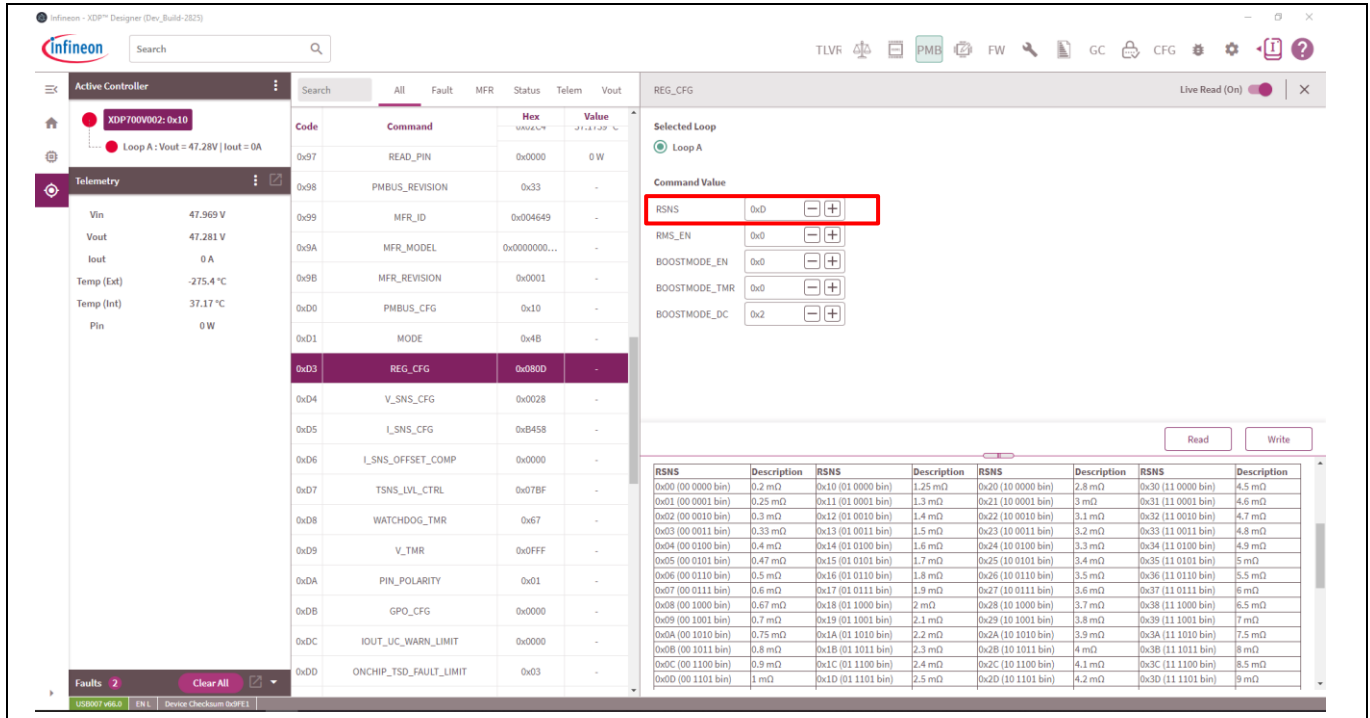

Figure 30 R_{Sns} selection
2. Modify the R_{Sns} bit to 0xD, and then click **Write**. See Figure 30.